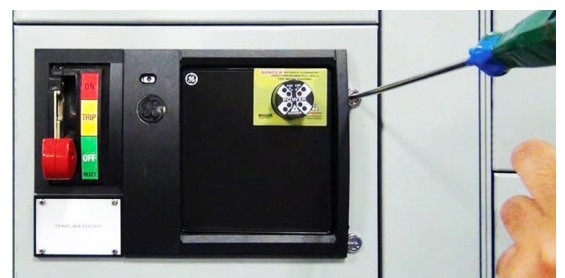

Figure 2. Unlatching the door.
Step 1: Turn “OFF” the disconnect. Unlatch and open the door by turning the latch head a quarter of a turn in the counterclockwise direction as shown in Figure 2.